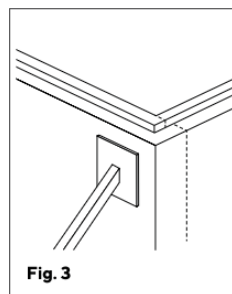

Fig. 3
- 5) Temporary through-anchoring (as detailed): Drill a 5/16 in. hole straight through the element. Install a 5/16 in. threaded rod with a bearing plate at least 8 in. x 8 in. (plywood/OSB acceptable) and anchor to the slab/foundation per the detail. Drill before trimming/cutting. Stabilize corner elements that receive the next element so they cannot move during casting (see Fig. 3).